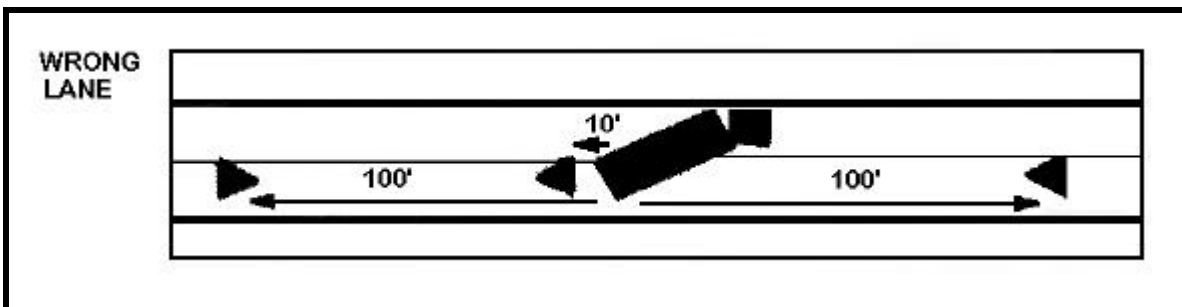

Figure 5-6. Vehicle stopped, blocking two lanes
- One reflector in the center of the lane of traffic occupied by the vehicle and not less than 40 paces (approximately 100 feet) from it in the direction of traffic approaching in that lane (see Figure 5-6). If the vehicle is on or over the shoulder and does not occupy a traffic lane, the warning device should be placed on the edge of the roadway so that the traffic lane is not blocked.